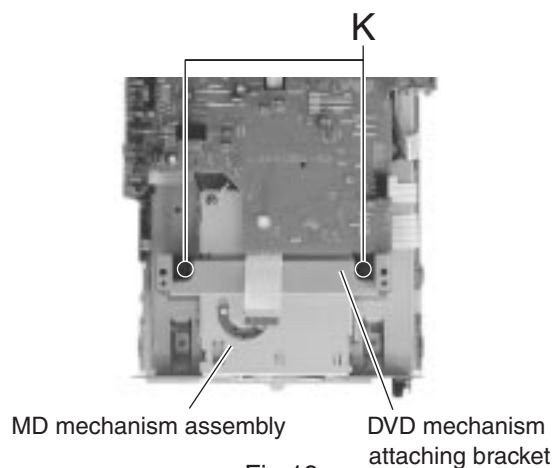

Fig.19
■ Removing the MD mechanism assembly (See Fig.19~21)